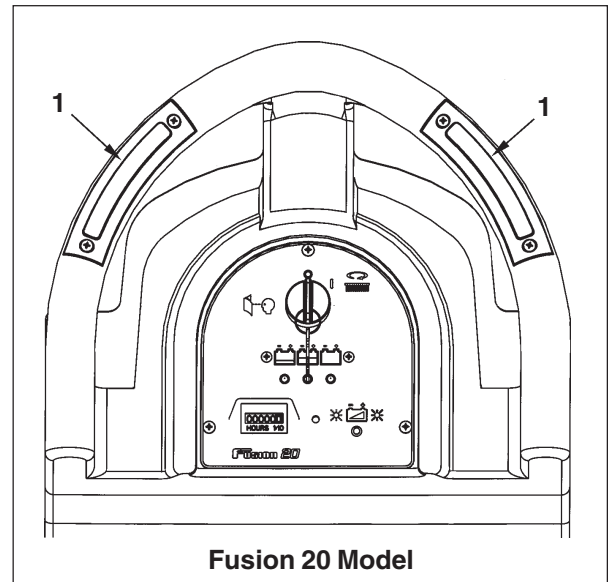

Figure 1
7. Push in one of the pad power switches (1). See figures 1 & 2.
Fusion 20 (see figure 1) - Push in either the right or left pad power switch (1).